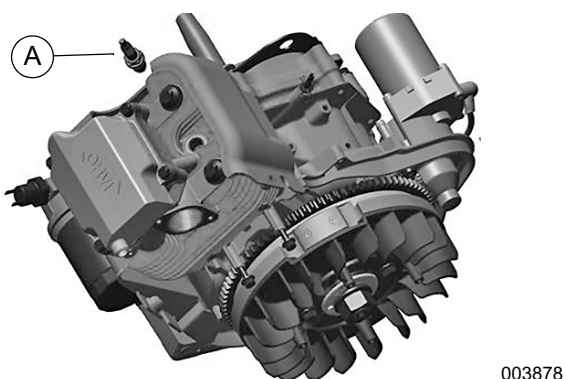

Figure 14-60. Install Spark Plug
- See **Figure 14-60**. Install spark plug (A) in spark plug hole. Tighten spark plug to 18.4 ft-lbs (25.0 Nm).